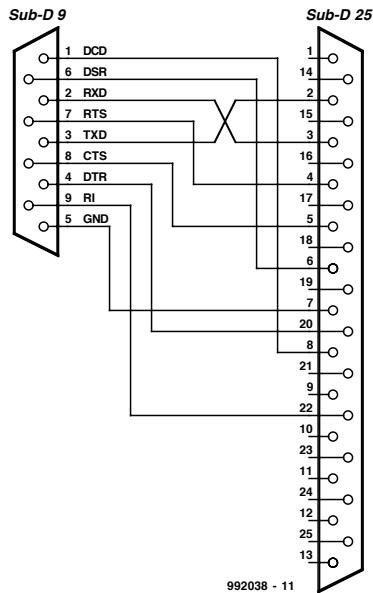

Figure 1. 9-way to 25-way RS232 adapter.
- X cable, 9-way Sub-D plug to 25-way Sub-D socket, approx. 20 cm, (Figure 1);
- X cable, 9-way Sub-D socket to 25-way Sub-D plug, approx. 20 cm, (Figure 1);